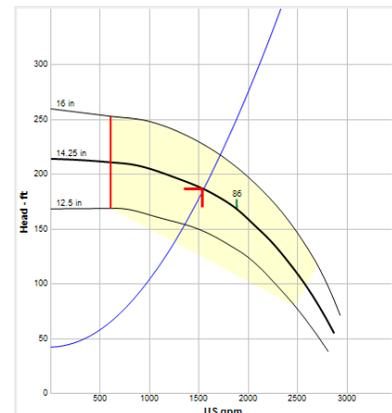

Figure 2. SRC with control valves set to a percent open. Resistance of the control valves are included in the SRC.
- To eliminate the separation between the pump curve and SRC as shown in Figure 2, the user can set all of the Control Valves to 100% open before creating the SRC. This can be easily accomplished through a group edit of the valves. This also gives the user the ability to set the valves to other positions and have that resistance represented in the SRC.